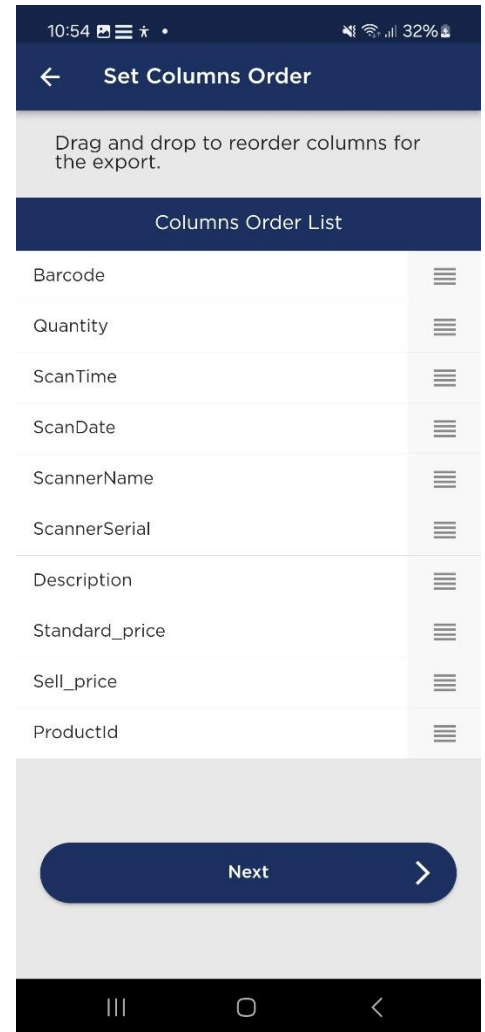

Figure 8-15: The *Set Columns Order* page where you can drag and drop to reorder the columns for the export.
- After selecting the columns, you can arrange them in your preferred order on the Set Columns Order page (see Figure 8-15). Drag and drop the columns to reorder them as desired. This customization allows you to organize the exported data according to your specific needs. Once you have configured the order of the columns, click "Next" to proceed.